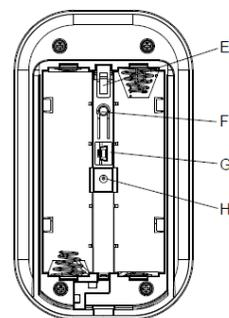

Figure 4 Inside View
2. Press and hold the learning key “F” (as shown in Figure 4) for more than 3 seconds until the green strobe LED turns off, then quickly release the learning key. The Green LED will flash repeatedly. This implies it has now entered the binding mode and is waiting to receive binding signals from the gateway.